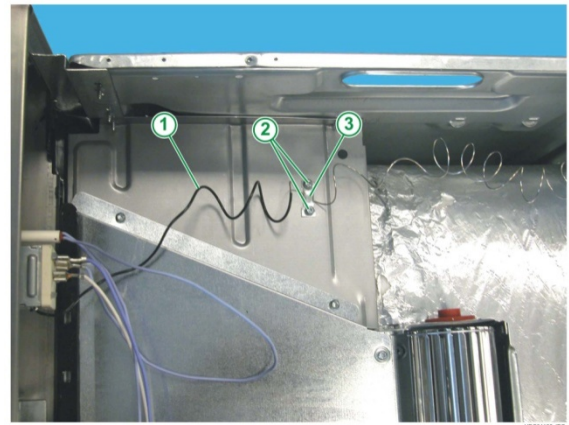

Fig. 18
20. Fix the oven thermostat capillary with the relevant two screws (see Fig. 18).